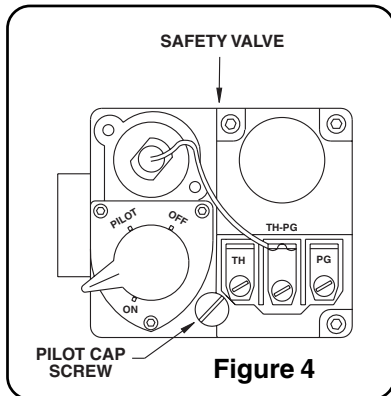

Figure 4
- b. If adjustment is necessary, remove the cap screw (Figure 4) and turn the smaller gas adjustment screw inside counterclockwise to increase the pilot flame and clockwise to decrease the pilot flame. Replace cap screw.